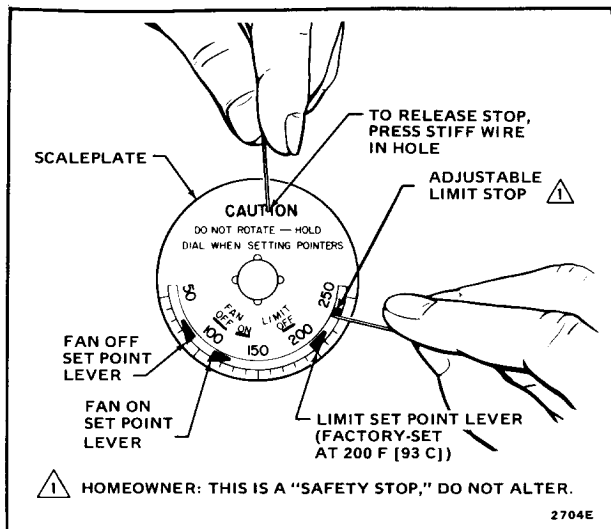

FIG. 14—CHANGING THE HIGH LIMIT STOP.
When adjusting the fan and limit set point lever (Fig. 14), hold the scaleplate dial to keep it from turning and straining the sensing element.
1. Push a stiff wire through hole in scaleplate to depress the stop disc not more than 1/16 in. [1.6 mm] to release stop lock (Fig. 14). Stop disc is on back of scaleplate.
2. When depressing the stop disc, insert another stiff wire next to limit stop (Fig. 14) and use this wire to move stop to desired setting. *If the L4064 is a replacement control, the high limit stop setting should be the same as that of the control being replaced.* (Move stop clockwise  to lower the setting, counterclockwise  to raise it.) Then remove both wires.